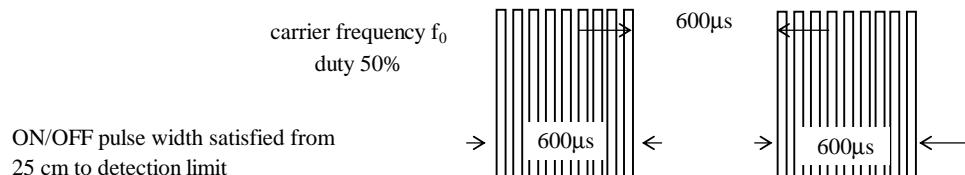

Fig 1. Burst Wave
- (3) Standard transmitter ... Burst wave indicated in Fig 1. of standard transmitter shall be arranged to 50mVp-p under the measuring circuit specified in Fig 2.